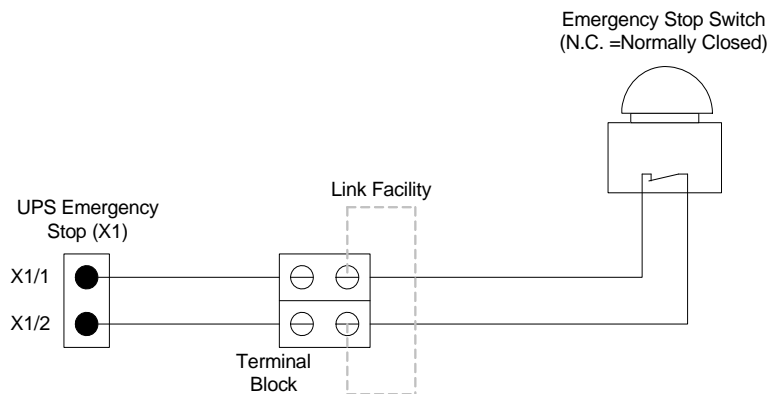

Figure 7.3 Remote Emergency OFF Switch Cabling
2. Connect the cable as shown in Figure 7.3.